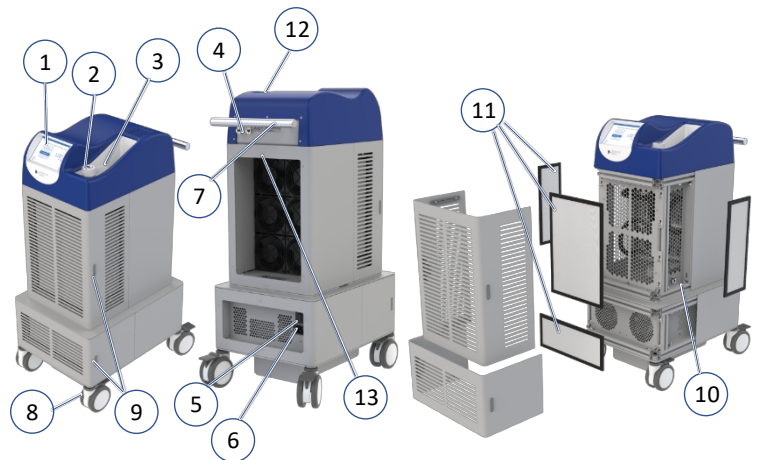

Figure 1. DigniCap Delta
DigniCap Delta (Figure 1) is a thermoelectric cooling unit with an integrated control system operated via a touch screen monitor. Components of DigniCap Delta are outlined below.
1. **A/C Power Cord** – The A/C power cord (region specific) plugs into the back of the device (Figure 1,6) to supply power to the device. Only use the A/C power cord supplied with DigniCap Delta.
2. **Therapy Hose** – This hose connects to the back of the DigniCap Delta (Figure 1,4) and to the Cooling Wrap (described below).
4. **Drain Hose** – This hose connects to the Drain Port (Figure 1,10) and is used to drain the coolant from the device in preparation for transport or storage (see Shipping and Storage section).
3. Obtain 1 bottle of DeltaCool coolant, remove the cap from the reservoir (Figure 1,2) and fill with coolant to the top. Keep the cap OFF the reservoir.